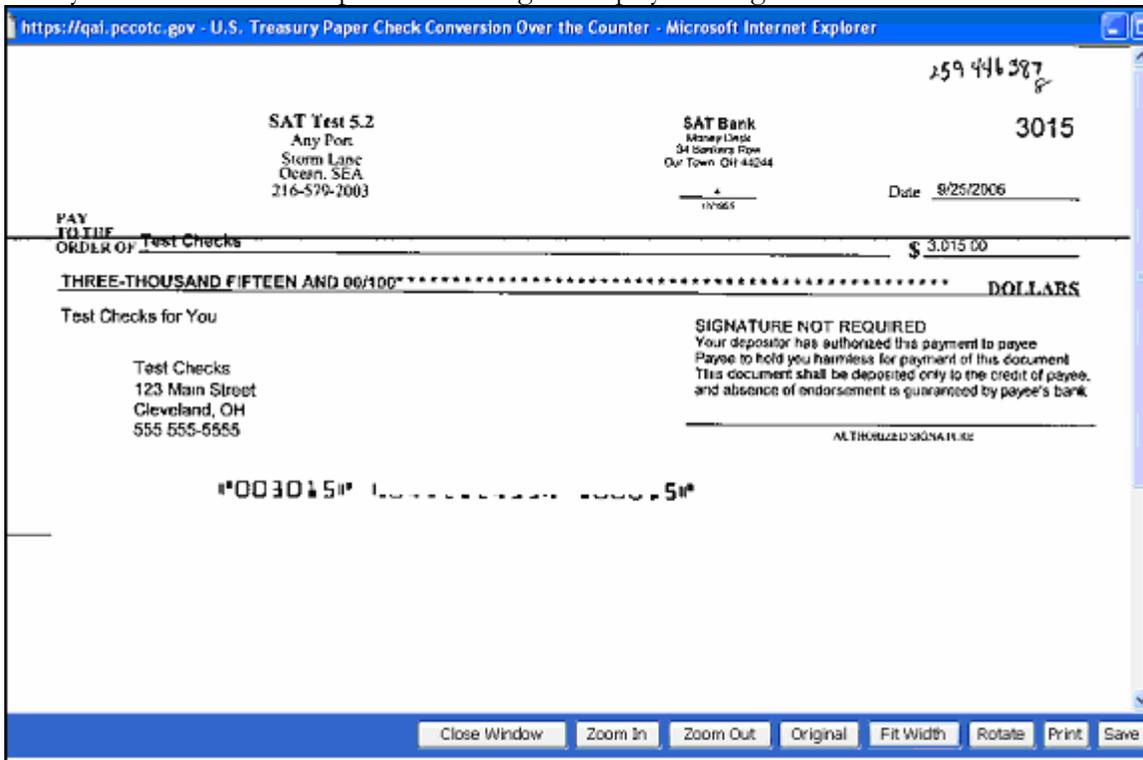

Figure 5.32.2
1. The system will retrieve and present the image as displayed in Figure 5.32.2.